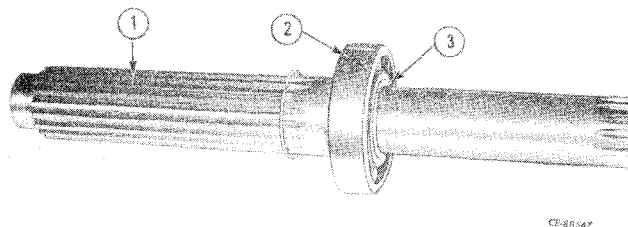

Figure 4-50
Inspect the countershaft (1, Fig. 4-50) and bearing (2) for signs of wear or damage. If either parts require replacement, remove the bearing retaining ring (3) and press the shaft out of the bearing.